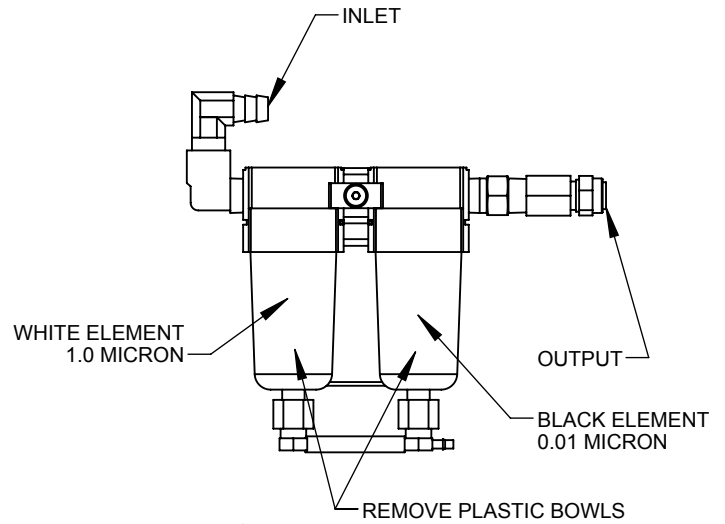

FIGURE 2
7. Remove the plastic bowls from the filter assembly. Using a Phillips head screwdriver, remove the filter element retaining screws. Replace the elements as indicated in Figure 2.